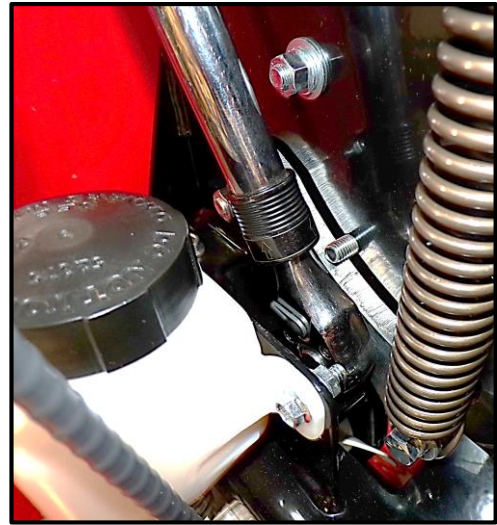

Figure 12 Breaker Bar on Tensioner Arm
11. Insert the square drive of the 1/2" drive breaker bar into the square opening of the tensioner arm, as shown [Figure 12]. Ensure the wrench's drive is fully seated into the tensioner before attempting to relieve tension.